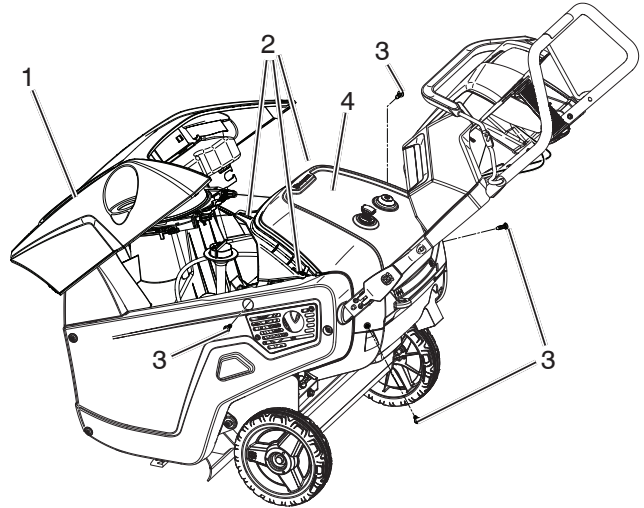

Figure 28
8. Unsnap top cover by firmly pulling upwards at the rear section of the cover disengaging the three clips (Figure 28).
25. Set top cover in place and snap three top cover clips into the rear upper cover (Figure 28).